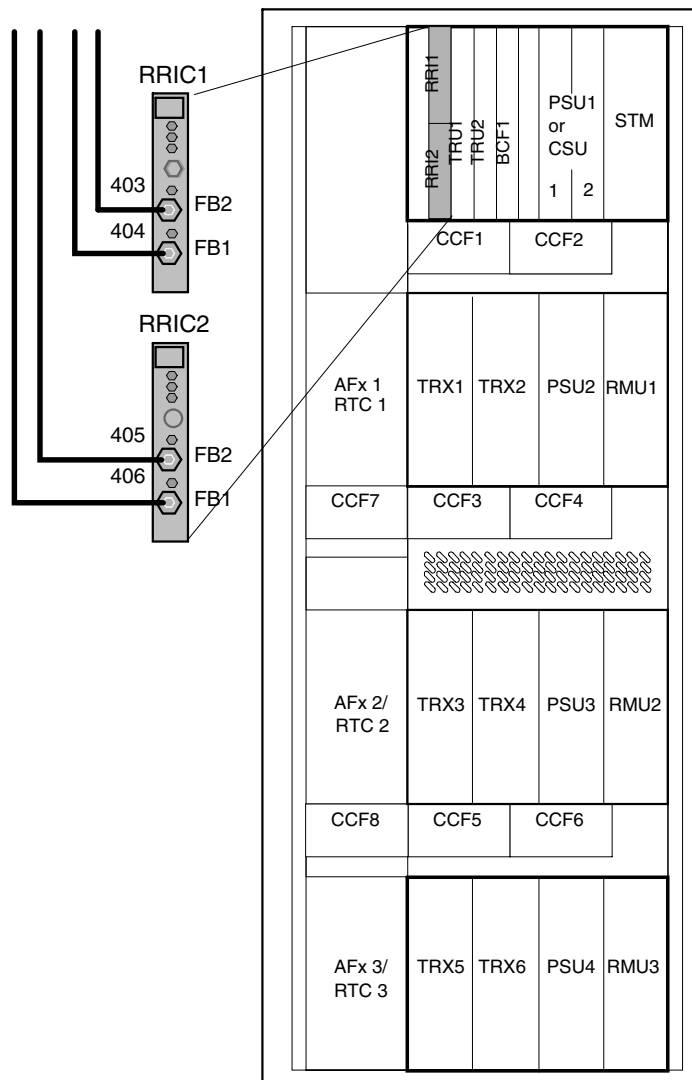
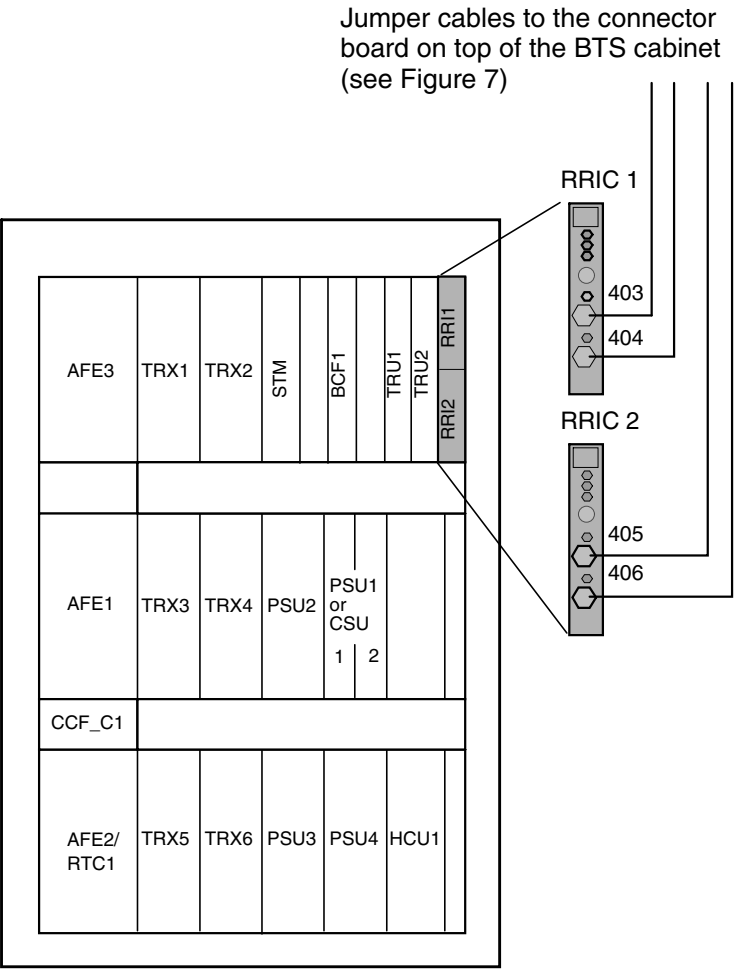

Figure 2. RRI unit location and connection of jumper cables to RRI units in Nokia Intratalk GSM 900/GSM 1800 BTS
Figure 3. RRI unit location and connection of jumper cables to RRI units in Nokia Citytalk GSM 900/GSM 1800 BTS
- Figure 2. RRI unit location and connection of jumper cables to RRI units in Nokia Intratalk GSM 900/GSM 1800 BTS **14**
- Figure 3. RRI unit location and connection of jumper cables to RRI units in Nokia Citytalk GSM 900/GSM 1800 BTS **15**
In the Intratalk BTS, the RRIs are located to the left of the TRUs (Figure 2) and in the Citytalk BTS to the right of the TRUs (Figure 3).
The BTS contains four jumper cables (RG-223 with N-connectors) going to a connector board on the top of the base station cabinet. Connect the jumper cables to the RRIC units as shown in Figures 2 (Intrataalk) and 3 (Citytalk).